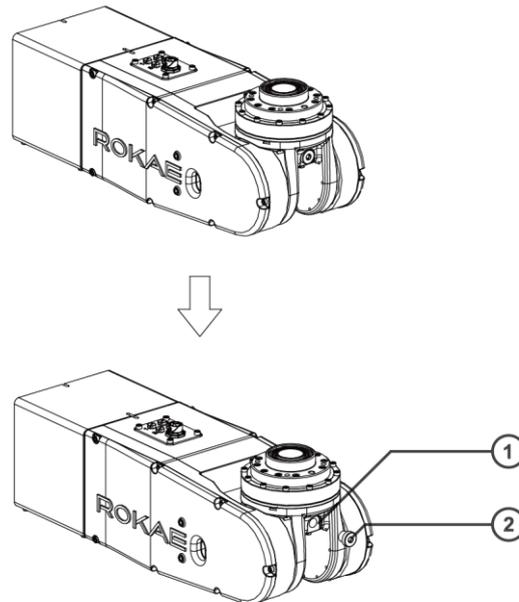

Fig. 38 Grease refill
- 1) Rotate the wrist from zero to 90 degrees upward (as shown in Fig. 38). Turn off the power;